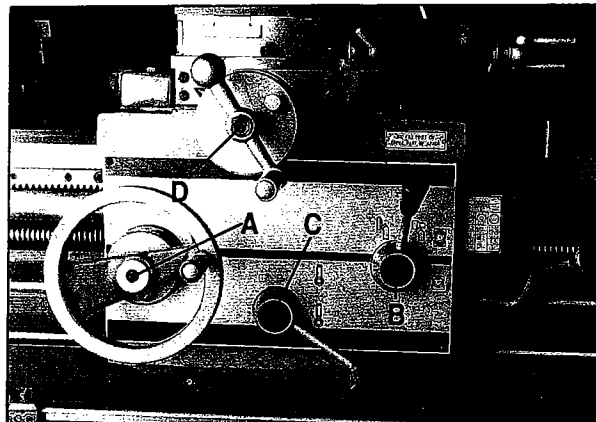
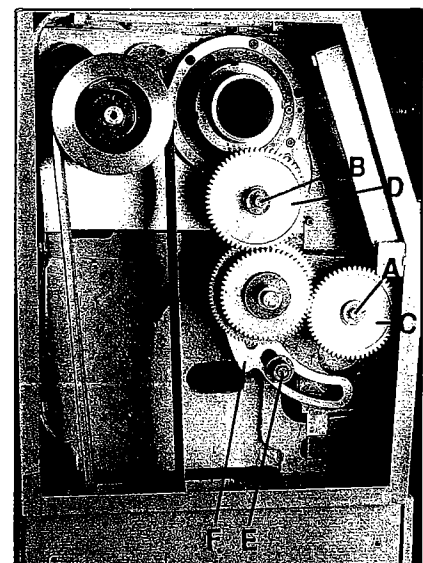

Fig. 17
Fig. 22
9. **Longitudinal Traverse Hand Wheel** (A, Fig. 17) - located on the apron assembly. Rotate hand wheel clockwise to move the apron assembly toward the tailstock (right). Rotate the wheel counter-clockwise to move the apron assembly toward the headstock (left).
10. **Feed Selector/Half Nut** (B, Fig. 17) - located in the front of the apron assembly. 11 o'clock position activates cross feed. 1 o'clock position activates the longitudinal feed. 2 o'clock position disengages the half nut. 4 o'clock position engages the half nut.
11. **Feed Engage Lever** (C, Fig. 17)- located on front of the apron. Pull lever up to engage. Push lever down to disengage.
12. **Cross Traverse Handwheel** (D, Fig. 17) - located above the apron assembly. Clockwise rotation moves the cross slide toward the rear of the machine.
3. Loosen bolts (A & B, Fig. 22) and remove gears (C & D, Fig. 22).
4. Loosen nut (E, Fig. 22) and move quadrant (F, Fig. 22) out of the way and hold in place temporarily by tightening nut (E, Fig. 22).
6. Loosen nut (E, Fig. 22), move quadrant back so teeth mesh on gears, and tighten bolts (A & B, Fig. 17). **Caution: Make sure there is a backlash of .002-.003 between gears. Setting the gears too tight will cause excessive noise and wear.**